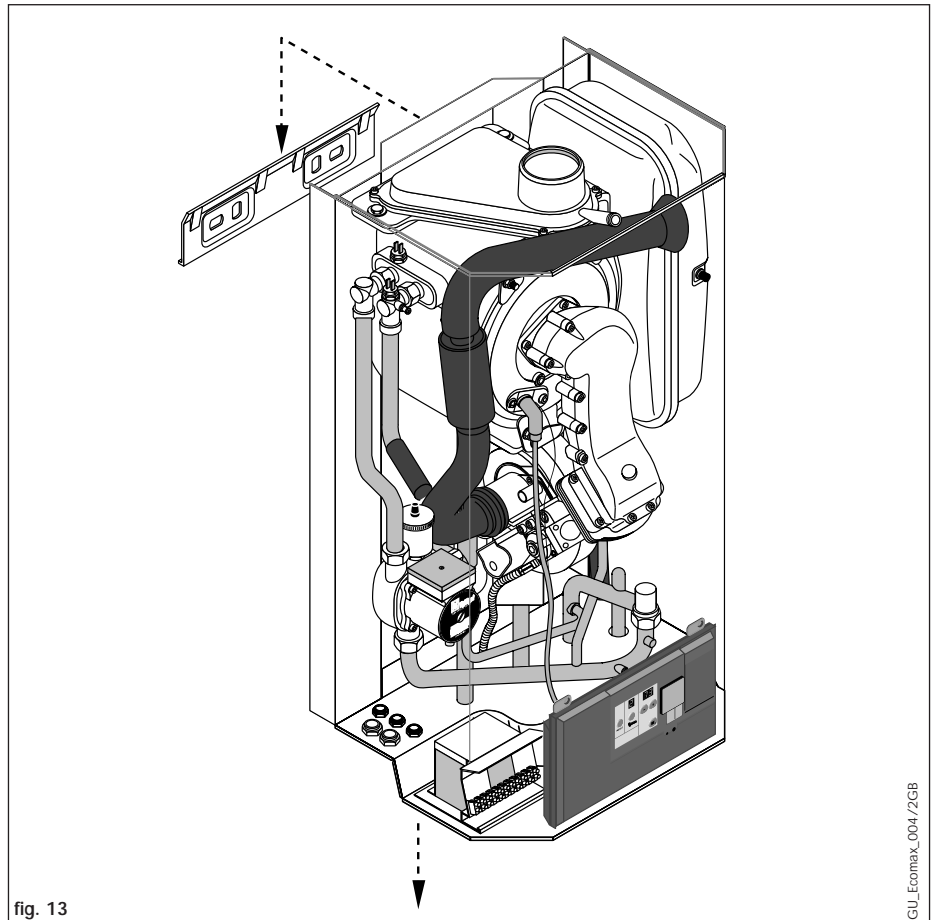

fig. 13
4.5.1 Fitting the boiler (fig. 13)